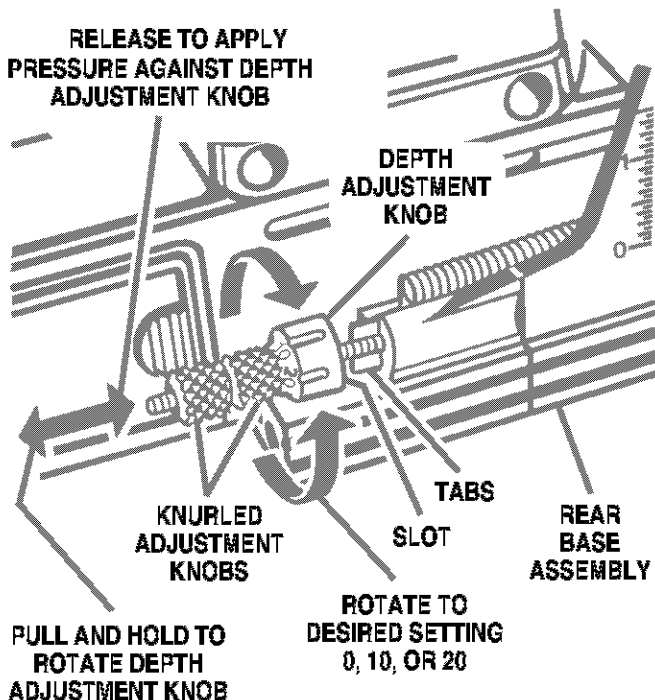

Fig. 3
Your Plate Joiner can be adjusted to three standard cutting depths to accommodate three standard size biscuits — #0, #10, and #20. Adjustments are made by engaging slots on depth adjustment knob with tabs on rear base. For example, when using a #0 size biscuit, rotate the depth adjustment knob until the slot marked 0 aligns with the depth indicator mark on the rear base. When using a #10 size biscuit, rotate the depth adjustment knob until the slot marked 10 aligns with the depth indicator mark on the rear base, and when using a #20 size biscuit rotate the depth adjustment knob until the slot marked 20 aligns with the depth indicator mark on the rear base. See Figure 3.
- Pull knurled adjustment knobs in the direction of the arrow shown in figure 3.